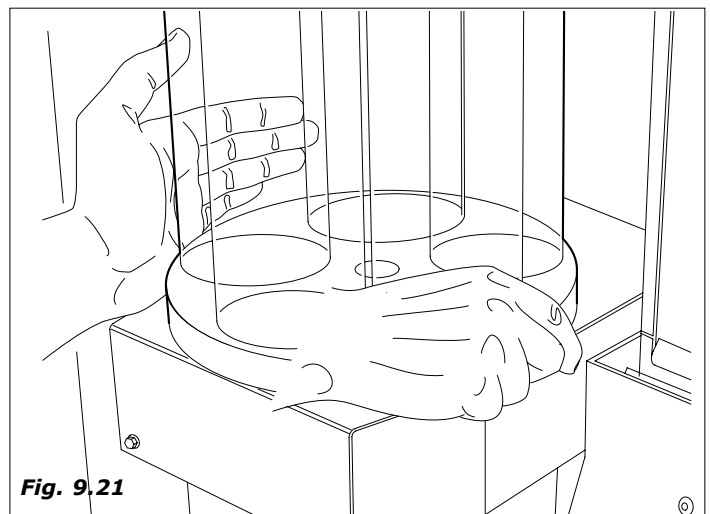

Fig. 9.21
- Extract the cup-holder column (Fig. 9.21).